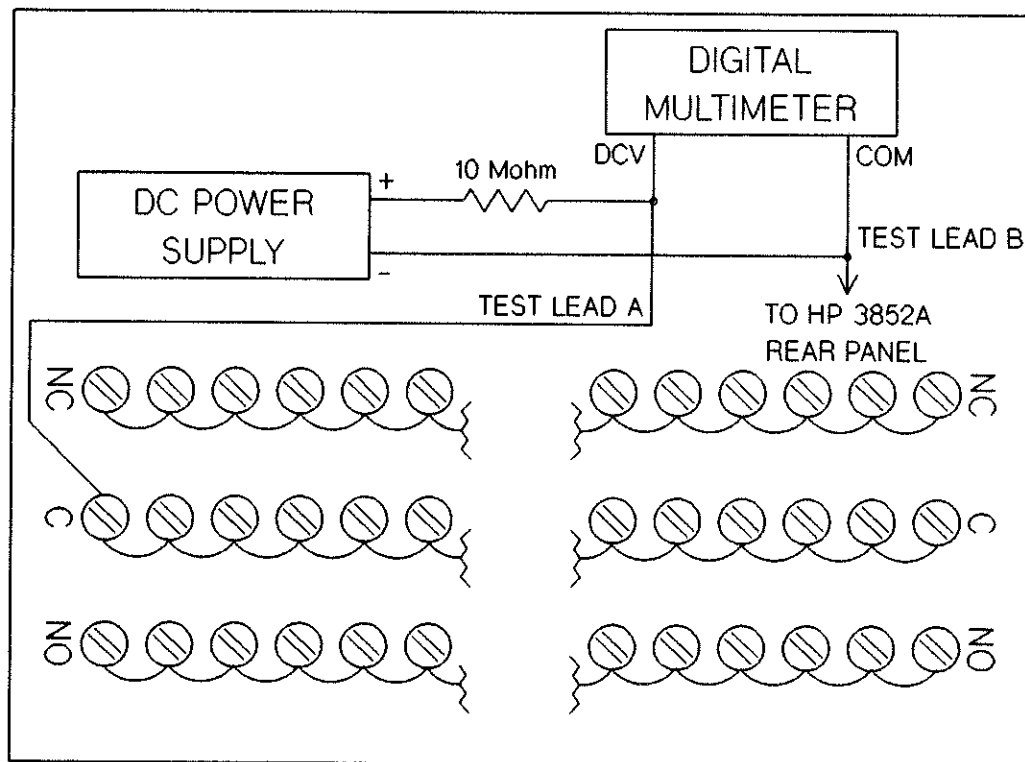

Figure 14-12 HP 44725A Channels to Earth Ground DC Isolation Test
18. Refer to Figure 14-12. Connect test lead A of the test circuit to the shorted C (Common) lines on the test fixture. Connect test lead B of the test circuit to the chassis.
23. Refer to Figure 14-12. Connect test lead A of the test circuit to the shorted C (Common) lines on the test fixture. Connect test lead B of the test circuit to the chassis.